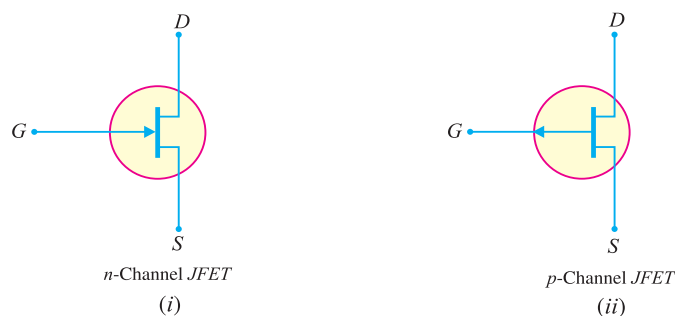

Fig. 19.4
Fig. 19.4 shows the schematic symbol of *JFET*. The vertical line in the symbol may be thought
as channel and source (S) and drain (D) connected to this line. If the channel is n -type, the arrow on the gate points towards the channel as shown in Fig. 19.4 (i). However, for p -type channel, the arrow on the gate points from channel to gate [See Fig. 19.4 (ii)].